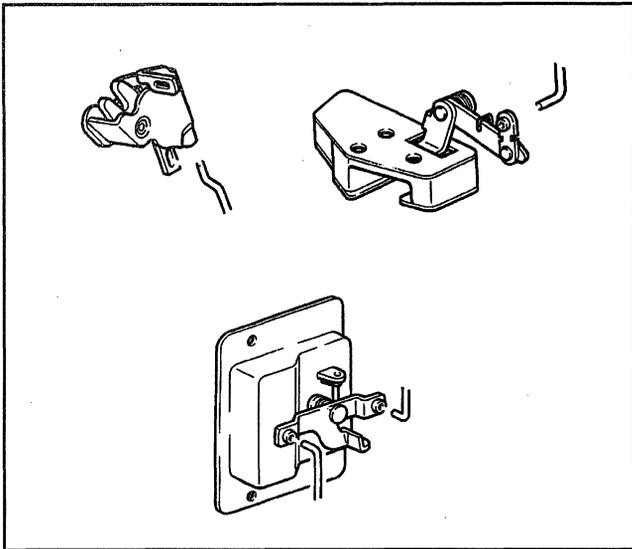

Figure 48—Linkage attaching points.
2. Upper rod retainer (Figure 48).
3. Rod to handle assembly (Figure 48).
2. Rod from lower latch assembly (Figure 48).
2. Rod to handle assembly (Figure 48).